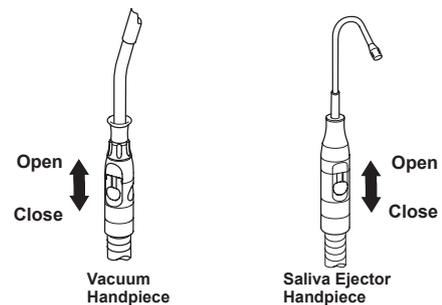

Fig.3-21 Vacuum Handpiece and Saliva Ejector Handpiece
### (4) Assistant Instrument Holder (Fig.3-21)